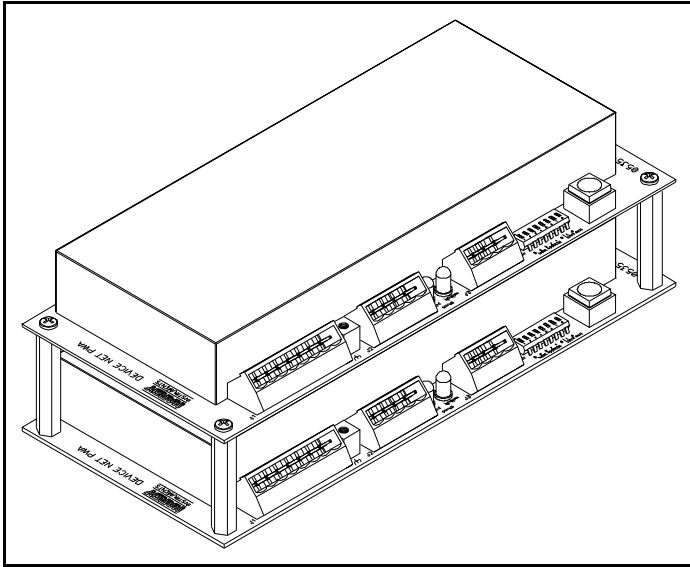

FIG. 3-9 INSTALLING THE STACKING KIT
- Step 6. Place the four (4) #6 flat washers over the mounting holes on the second weigh module.
- Step 7. Place the four (4) #6 lock washers over the four (4) flat washers.
- Step 8. Screw the four (4) pan-head machine screws into the previously mounted standoffs until the upper weigh module is fastened securely to standoffs. (See Fig. 3-9)